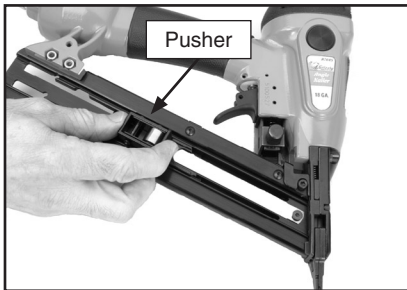

Figure 3. Sliding the pusher to the rear of the magazine.
2. Slide the magazine pusher to the rear of the magazine as shown in **Figure 3**.